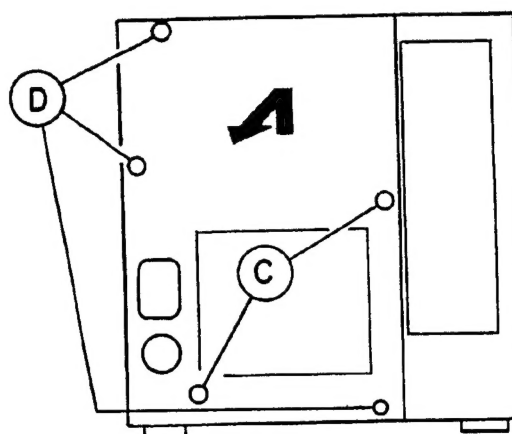

Fig. 2
- (1) Remove the top cover.
- (2) Remove the 2 screws (C) shown in Fig. 2.
- (3) Loosen the 3 screws (D).
- (4) Slightly slide the rear cover in the direction of the arrow and remove it.